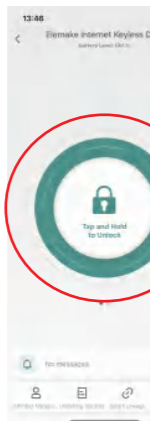

Figure P-4
(5) Bluetooth remote unlocking with mobilephone APP.(Figure P-4)